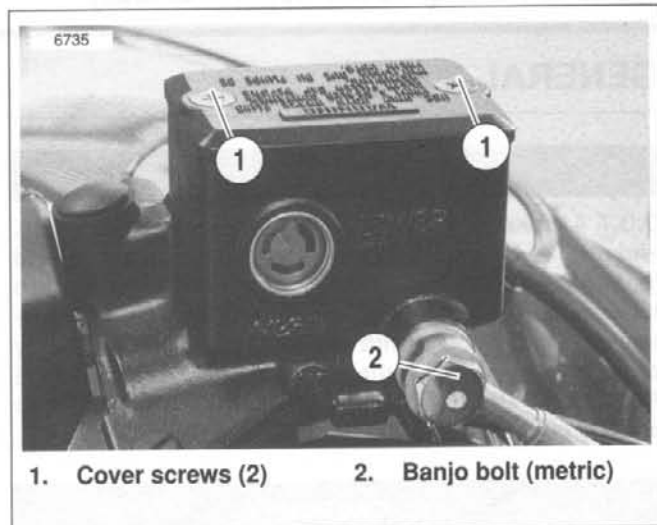

Figure 1-28. Front Master Cylinder
- b. Remove two screws from front master cylinder cover. Bring fluid level to within 1/8 in. (3.2 mm) of molded boss inside front master cylinder. See Figure 1-28.